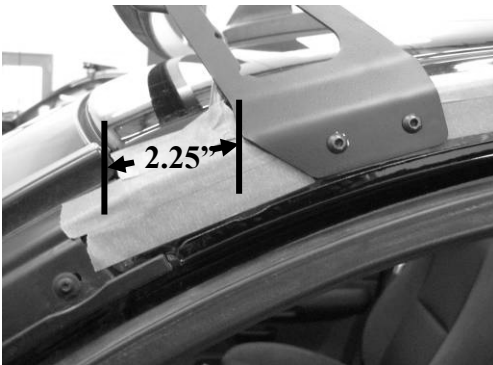

Figure 1
- Place tape where bracket will be mounted and mark drill holes with a marker. See **Figure 1** for bracket mounting location.